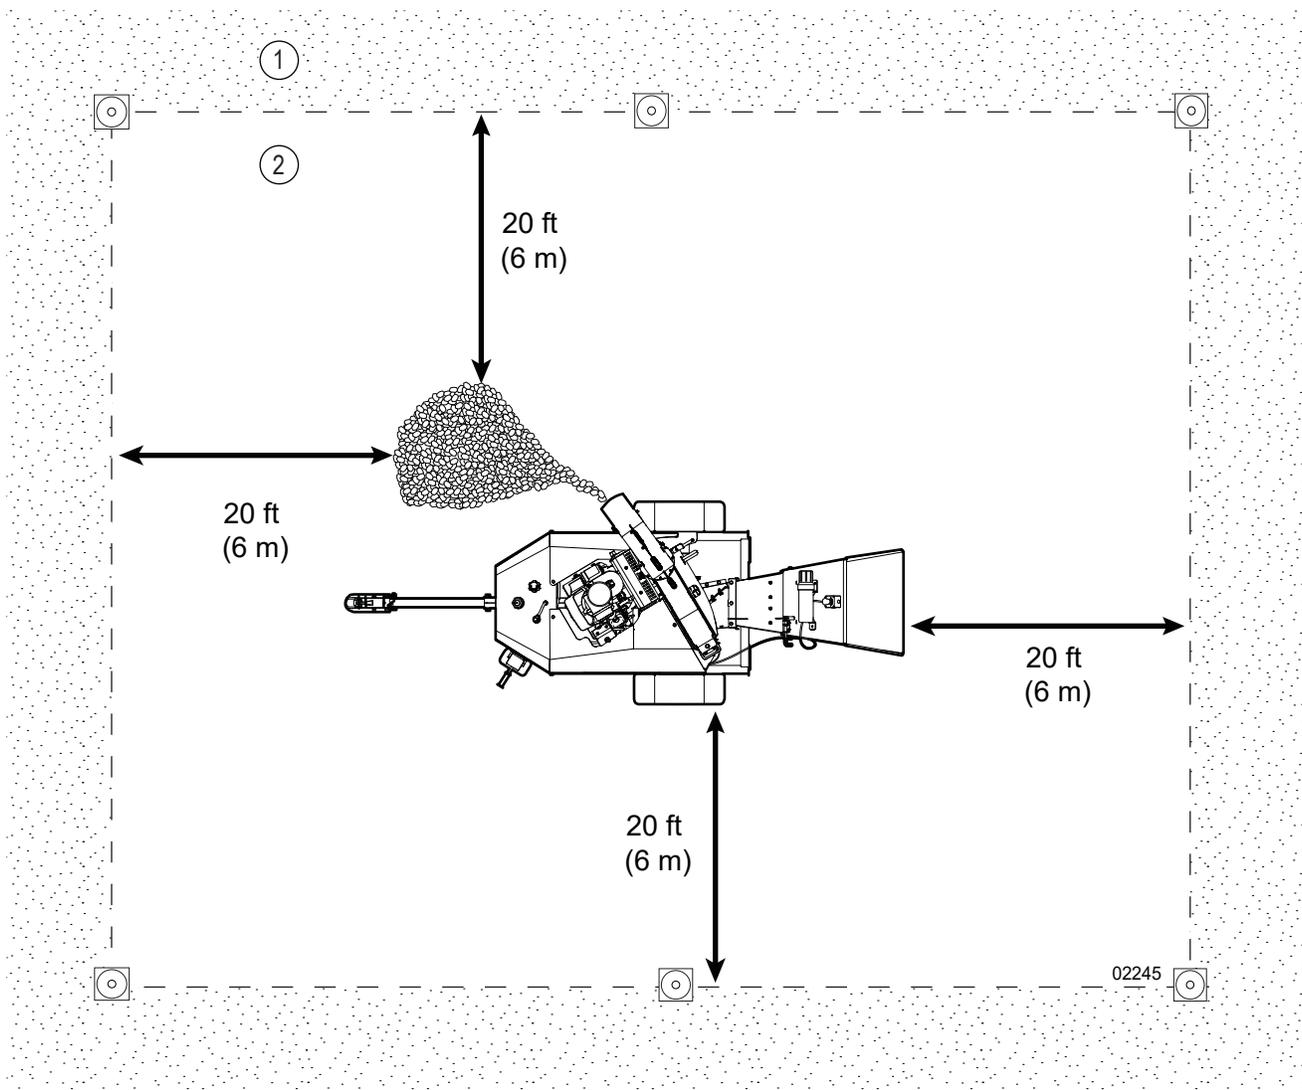

Figure 2—Example of a safe work area
- Use safety cones to identify the work zone perimeter. The work zone perimeter should be a minimum of 20 ft (6 m) away from any hazard in the work zone. The area outside the work zone perimeter is the safe zone. For more information, see *Figure 2 on page 12*.